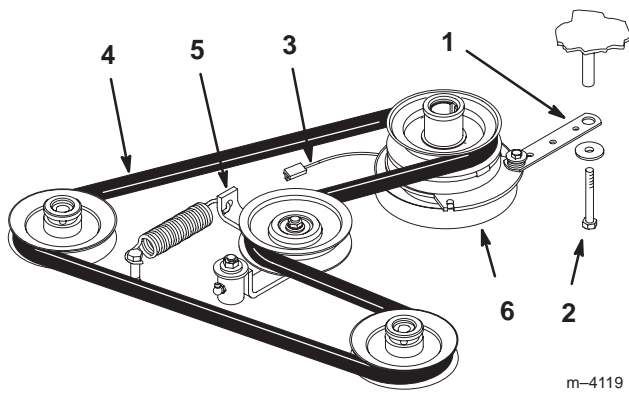

Figure 67
2. Remove bolt from clutch strap and unplug clutch electrical wire (Fig. 67).
3. Pull spring loaded idler to side. Remove traction belt from the engine and hydro pump pulleys (Fig. 67).
4. Install new belt around engine and hydro pump pulleys (Fig. 67).
5. Pull spring loaded idler to side and align belt. Release pressure on spring loaded idler (Fig. 67).